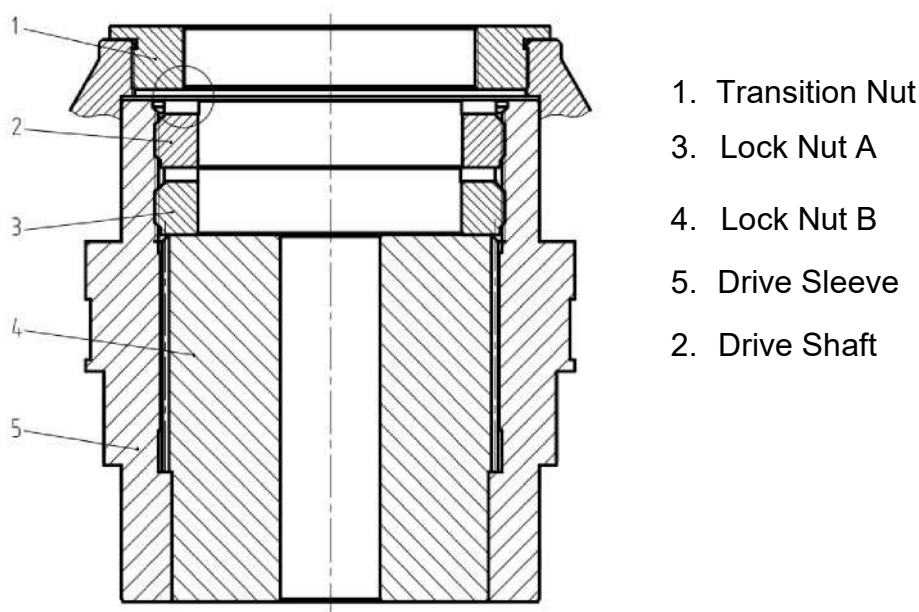
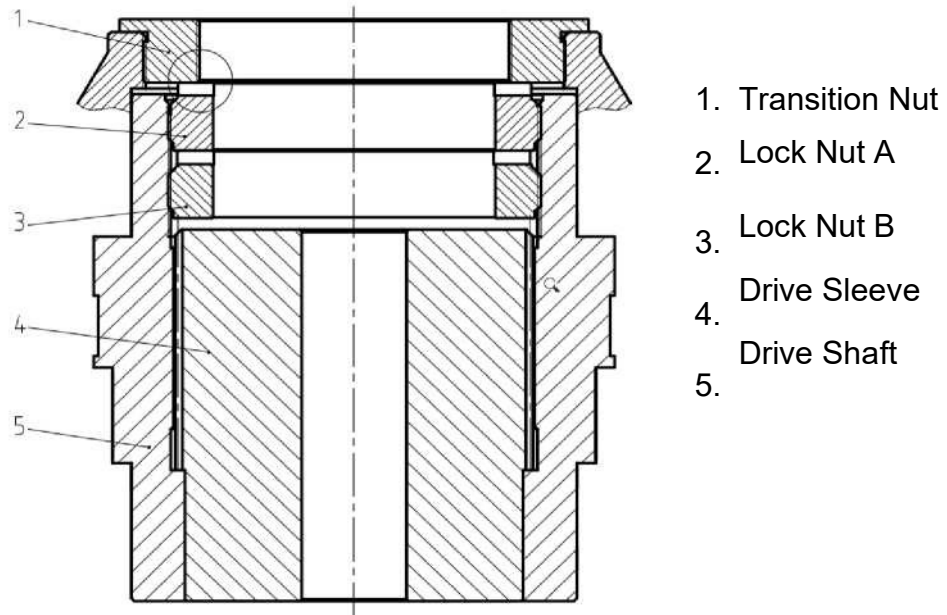

Figure 11 Correct Operation of Locking Nuts
Figure 12 Incorrect Operation of Locking Nuts
1. Before screwing in (4) and (3), apply silicone sealant to the internal thread area of the box that matches it, and then screw in (4) and (3) one by one and lock them tightly. This can completely eliminate the nut loosening problem caused by vibration or impact on the valve.
2. When installing the lock nut, it is necessary to lock it tightly to avoid jamming caused by not locking it. The correct operation (see Figure 11) and incorrect operation (see Figures 12,13) are listed below.
Lock nut b is tightened, but lock nut a is not tightened, which can also cause lock nut a to move up. The gap between the locking nut a and the transition nut is occupied. Resulting in the same result as Figure 12.